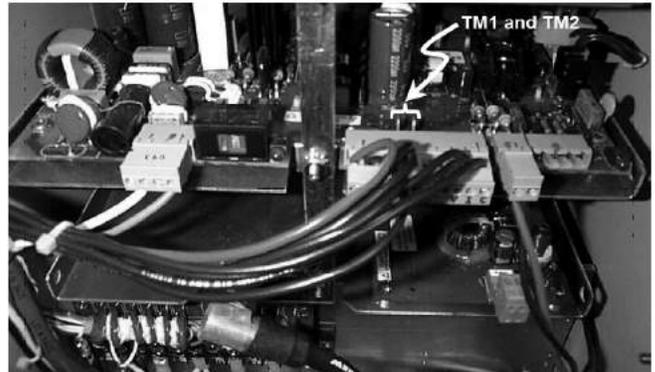

Figure 30. Location of terminals TM1 and TM2 on the power supply circuit board
1. Open the rear door of the Form 6-TS/LS pole-mount control cabinet and locate terminals TM1 and TM2 on the power supply circuit board (**Figure 30**).